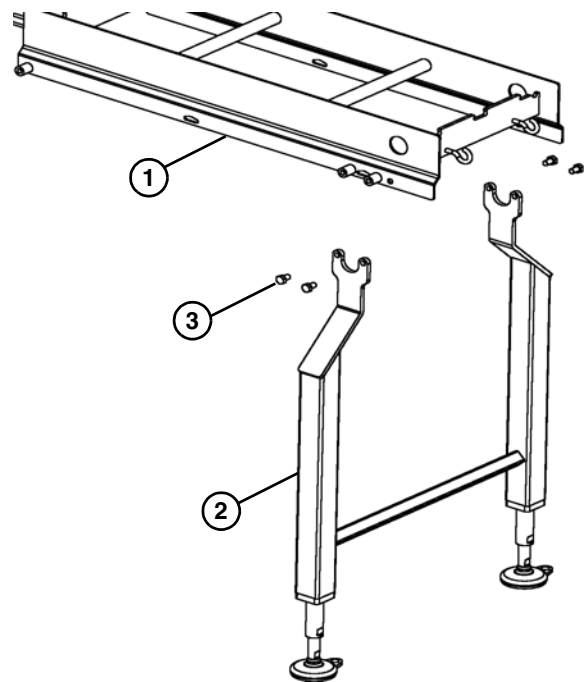

**Figure 7**
3. Connect the frame sections by bolting the hex post connectors (**Figure 7, item 1**) to the cross member supports of each frame section.